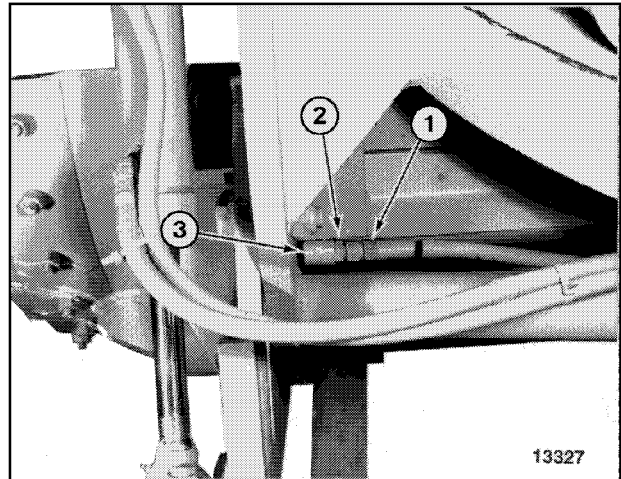

Figure 22
- Disconnect hose (1, Figure 22) from fitting (2). Remove fitting from base end cylinder port (3). Plug hose and cylinder port.